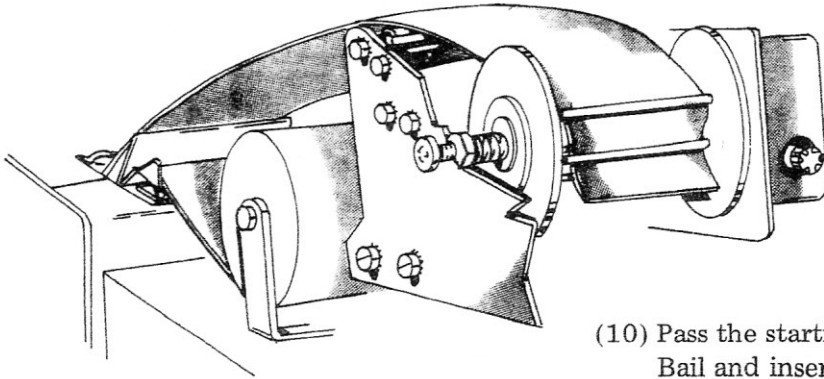

Figure 3-3. Paperwinder Threading Diagram
If a Paperwinder assembly is being used, leave the Power Switches in the OFF position and complete the threading procedure described below. Refer to **Figure 3-3.**
- (10) Pass the starting edge of the paper over the Paperwinder Bail and insert it between any two rods on the Take-up Reel, as shown in Figure 3-3.
- (11) Turn the Paperwinder Power ON/OFF Switch to the ON position. (The Paperwinder Reel will be begin to rotate, taking up any slack in the paper.)